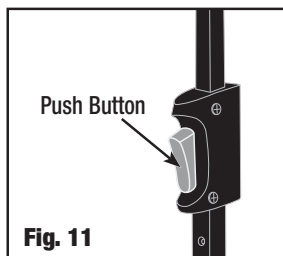

Fig. 11
- Lower the frame one post at a time by pressing the push button locks located on lower portion of posts. (Fig. 11)